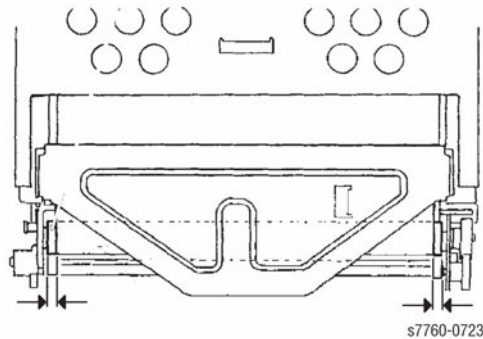

Figure 10 Positioning Transfer Belt
2. After installing the Transfer Belt, move it to the center of the IBT Frame so that exposed parts of the IBT Drive Roll should be equal (Figure 10).